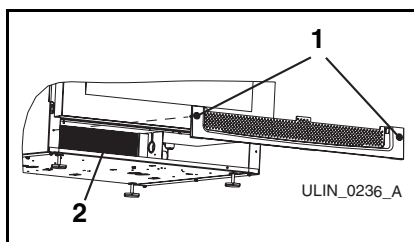

Figure 12
2. Loosen two screws (**Figure 12, 1**) completely.
4. Clean the condenser coil (**Figure 12, 2**) using a soft brush with a "combing" action or vacuum cleaner. Do not touch the condenser coil.